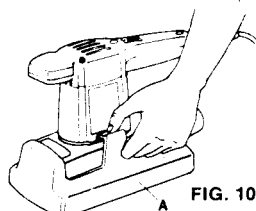

FIG. 10
2. Slide plastic skirt "A" Fig. 10 over power cord and down over sander until tabs at the top of skirt engage slots at bottom of motor housing. Hole in skirt must be at rear of sander.
7. **To remove skirt, unplug sander**, push both tabs outward (Figure 10) to disengage them from motor housing slots, and lift skirt off of sander.